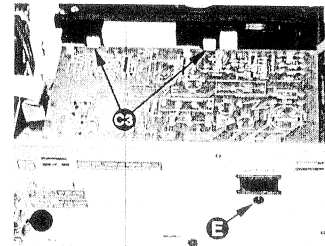

Figure 4
- 2) Loosen 1 screws E and 2 catches C3 to unslot the Mains board (pos 1102-A) out of the Rear panel as per figure 4.
- 1) Loosen 1 screws E and 2 catches C3 to remove the Mains board as per figure 4.